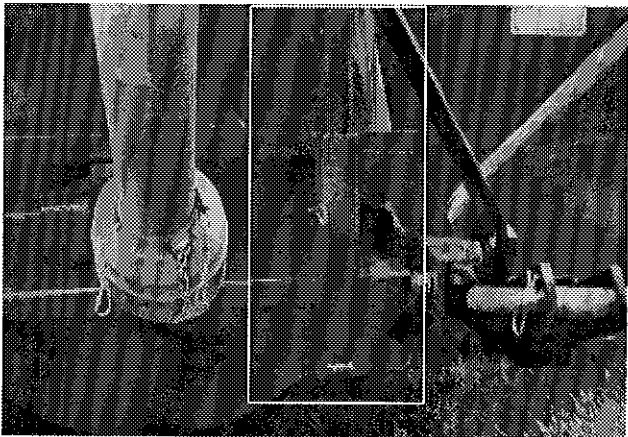

Figure 32
- 6) Following the installation of the Snowblower on the tractor, **do not forget** to lift the storage support (Fig. 32).